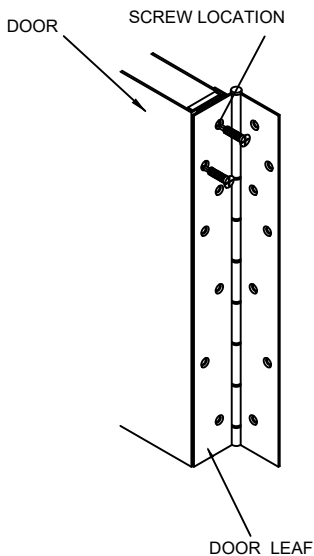

FIG. 4
1. **Attach Hinge to Door (FIG. 4):**